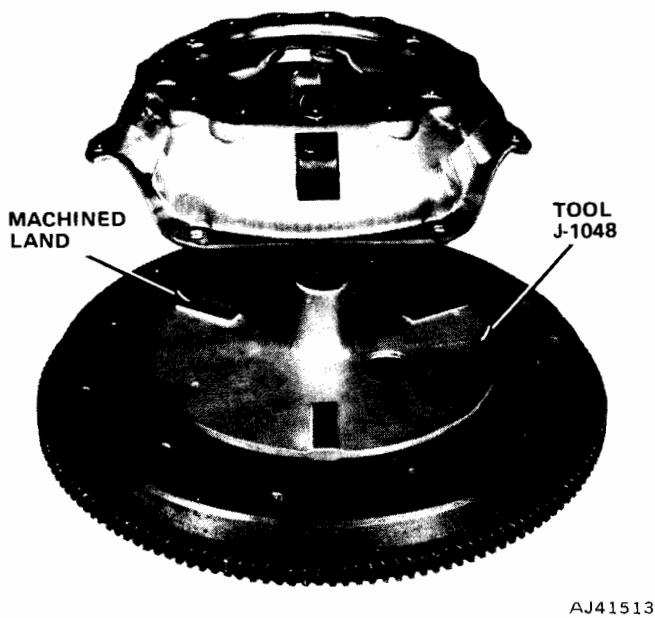
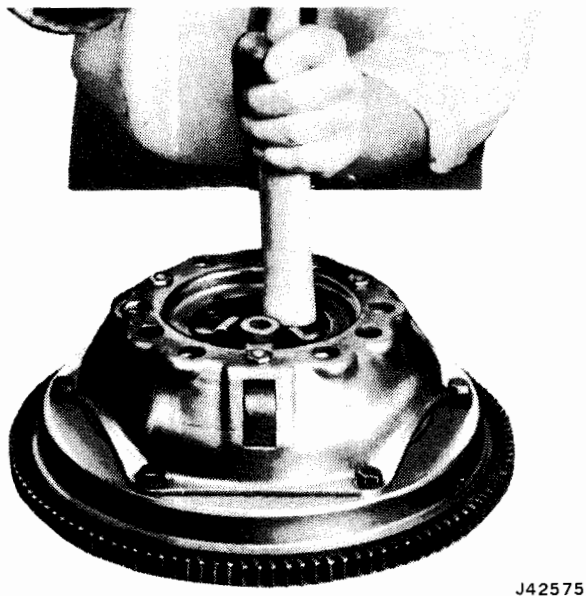

Fig. 5-6 Clutch Gauge Plate J-1048
Fig. 5-7 Compressing Release Levers
(1) Install Clutch Gauge Plate, Tool J-1048, on flywheel in position normally occupied by driven plate (fig. 5-6).
(2) Position cover assembly over gauge plate. Release levers should be directly over machined lands of gauge plate and gauge plate hub should be centered between ends of release levers.
(3) Attach cover assembly to flywheel. Tighten cover attaching screws in rotation, one or two turns at a time, to avoid distortion of cover.
(4) Compress each release lever several times to seat levers in their operating positions (fig. 5-7).